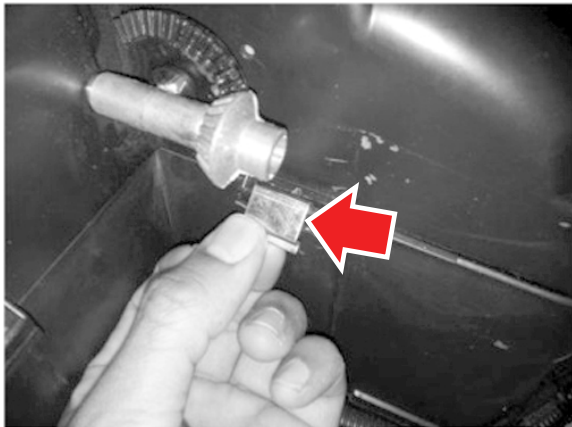

Figure 11-2
2. Remove retaining clips securing the head of the HVAC unit along its perimeter and set aside for reinstallation (see Figure 11-2).